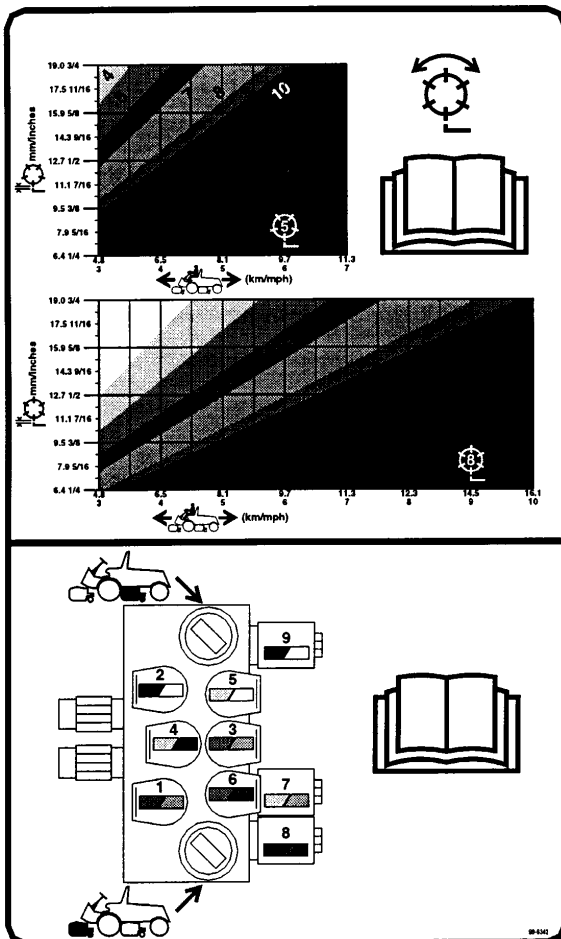

Figure 31
3. Using the appropriate graph (See graph figure 31) for 5 blade or 8 blade cutting units, determine the proper reel speed setting.